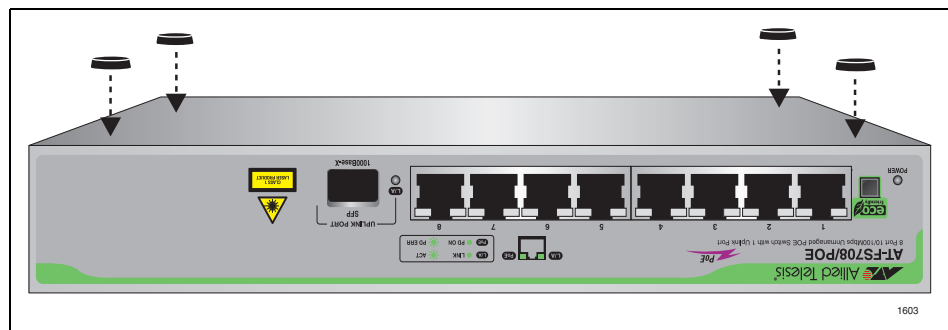

Figure 4. Attaching the Rubber Feet
2. Attach the four self-adhesive rubber feet to the bottom of the switch, as shown in Figure 4.